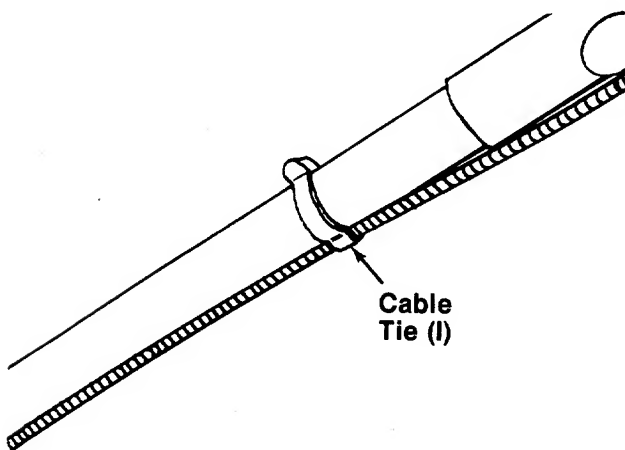

FIGURE 11.
11. Secure throttle control cable and brake cable to upper and lower handles with cable ties (I). See figure 11.